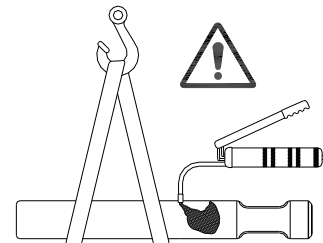

Fig. 10-7 Pre-Lube the Tool Shank
- Pre-lubricate the breaker tool before inserting into front head. (Fig. 10-7). This applies to new breaker tools and tools that have been wiped clean for inspection.